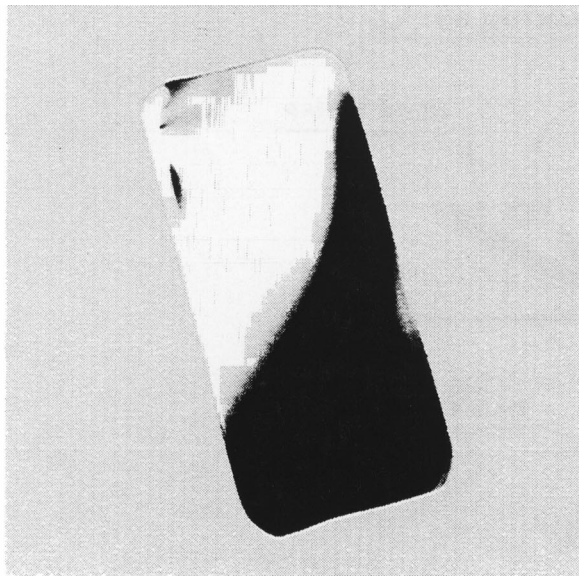

Figure 2 - Unsuccessful Decoupling
- 3.3 If prescan ends abnormally, or the surface coil images show hot spots, light and dark bands, or gross distortion as shown in Figure 2, the transmit decoupling network is suspect. Follow procedure in Sec. 4 and 5 for repair.